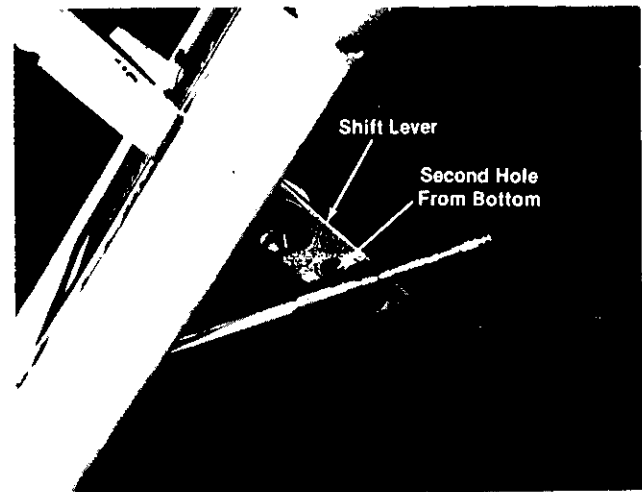

FIGURE 12.
C. Please note there are three holes left on the shift lever. Use the second hole from bottom for the next step. See figure 12.